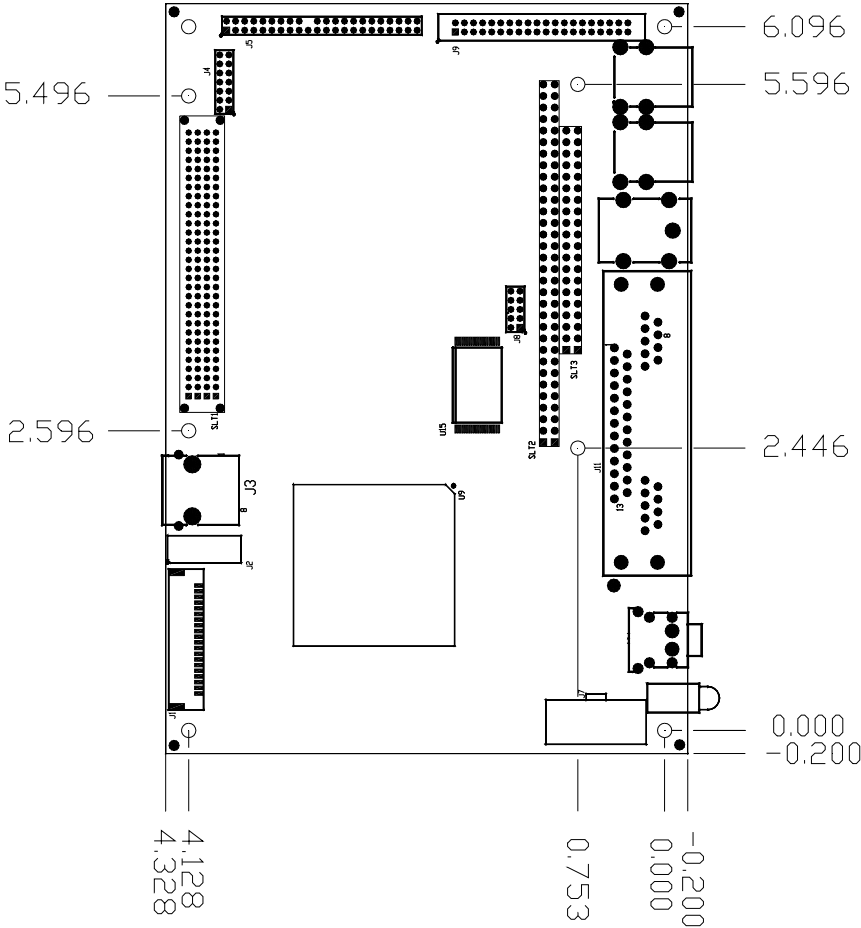

Figure 2. Dimensions and Mounting Holes
* **Note:** .The PCB Origin is the mounting hole next to the LED, same as Figure 2.